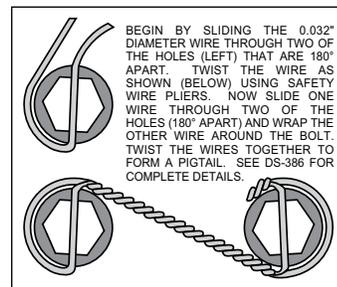

Figure 4. Safety Wire Diagram
- Install wheel studs (11) into the hub (12), Photo 3. Torque to 77 ft-lb. **NOTE:** There are two five lug patterns in the hub (5 x 4.50 and 5 x 4.75). Ensure the correct hub stud pattern is being used to fit the wheel application.
- Pack the large inner bearing cone (13) with high temperature disc brake bearing grease (available from your local auto parts store) and install into the backside of the hub (12), Photo 4.
- Install the grease seal (14, years 1957-1964) or (14A, years 1965-1967) by pressing into the backside of the hub (12), flush with the end of the hub, Photo 5.
- Pack the small outer bearing cone (15) with high temperature disc brake bearing grease and install into the front side of the hub (12), Photo 6. Slide the hub assembly onto the spindle. Secure using spindle washer (16) and spindle nut (17). Adjust bearings per OEM specifications. Install spindle nut retainer (18) and cotter pin (19), Photo 7.
- Screw dust cap (21) into hub (12), Photo 8. Friction created by the o-ring (20) on the dust cap keeps it from unscrewing. **NOTE:** The O.D. of the existing OEM spindle washer may be larger than the I.D. of the dust cap not allowing it to seat against the hub face. Therefore, use the spindle washer (16) supplied with the kit instead of the OEM washer.
- Orient the rotor (22) and the hat (23) as shown in Figure 1 or 2 and Photo 9. Attach rotor to hat using bolts (24) and washers (25). Apply red *Loctite*® 271 to the bolt threads and torque to 155 in-lb using a criss-cross pattern. For an added measure of security, the bolts may be safety wired using standard 0.032 inch diameter stainless steel safety wire as shown in Figure 4. Refer to Wilwood's data sheet DS-386 (available at www.wilwood.com/Pdf/DataSheets/ds386.pdf) for complete safety wire installation instructions.
- Slide the hat/rotor assembly (23/22) onto the hub (12) taking care to align the small countersunk holes in the hat with the small threaded holes in the hub, Photo 10. **NOTE:** The hat must fit flush against the hub face or excessive rotor run out may result. Install three flat head screws (26) through the small holes in the hat, and torque to 85 in-lb.